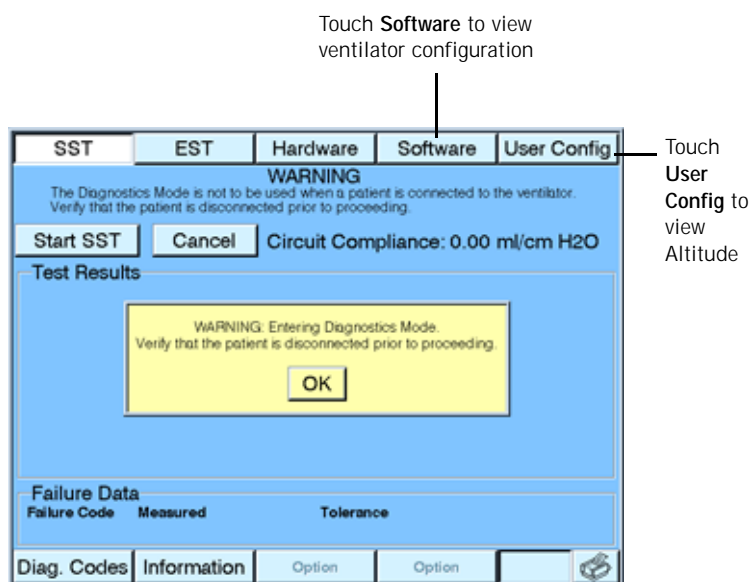

Figure 8-1: Entering Diagnostic Mode
- b. Touch **OK** to enter diagnostic mode (Figure 8-1).